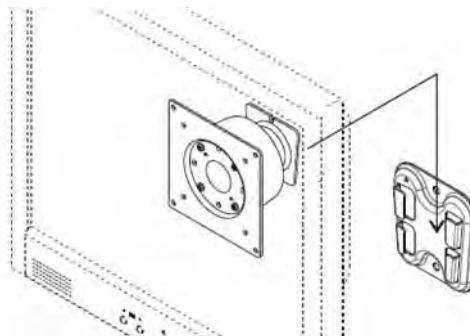

Figure 2.6 Wall Mounting
7. Align the wall mount bracket attached to the panel PC with the wall mount plate on the wall and slide the panel PC downwards to hang the bracket on the mount plate (Figure 2.6).